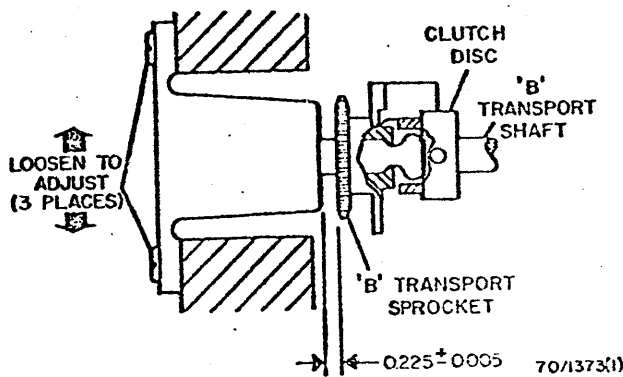

Fig. 3-124A. Concentricity of B Transport Sprocket Assembly
**Adjustment (Refer to Fig. 3-124A)